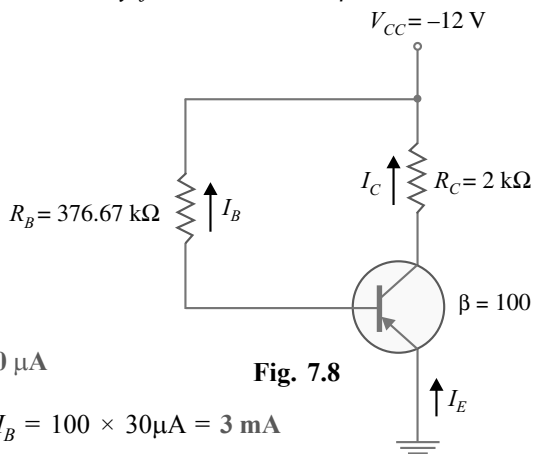

Fig. 7.8
**Example 7.5.** For the *pnp* silicon transistor circuit shown in Fig. 7.8, find (i) base current  $I_B$  (ii) collector current  $I_C$  (iii)  $V_{CE}$  and stability factor  $S$ . Assume  $\beta = 100$ .